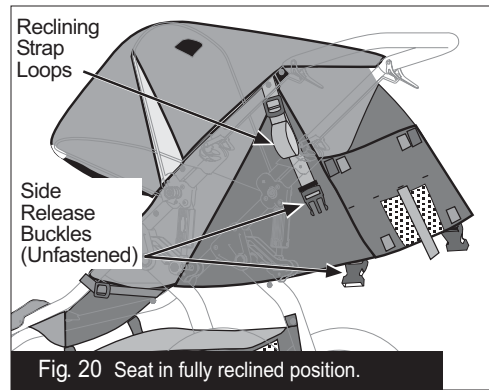

Fig. 20 Seat in fully reclined position.
To fully recline the seat, unfasten side release buckles at seat back. (Fig. 20)
**⚠ WARNING: When seat is fully reclined, (Fig. 20) backward tip-over is more likely, and may result in an accident or injury, as seat and/or passenger may contact ground before handlebar.**